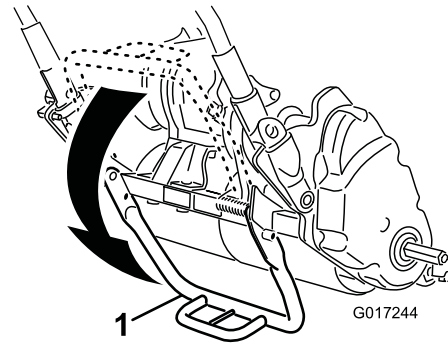

Figure 18
1. Use your foot to push the center of the kickstand down and pull up on the lower handle support until the kickstand has rotated forward and over center (Figure 18).